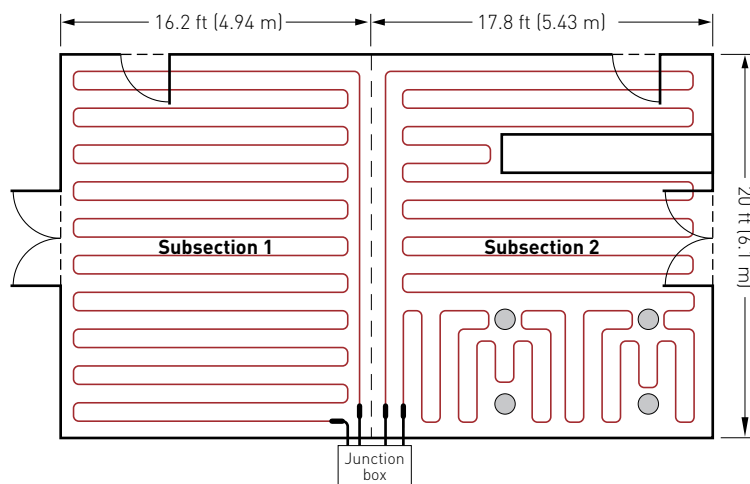

Fig. 19 Typical heating cable layout for comfort floor heating
- Divide large floor areas into equal subsection areas, if possible (Fig. 19).
Note: In Fig. 19, the subsections are equal heated areas.
Subsection area	$647 \text{ ft}^2 / 2 = 324 \text{ ft}^2$ (see Fig. 19) $60.4 \text{ m}^2 / 2 = 30.2 \text{ m}^2$